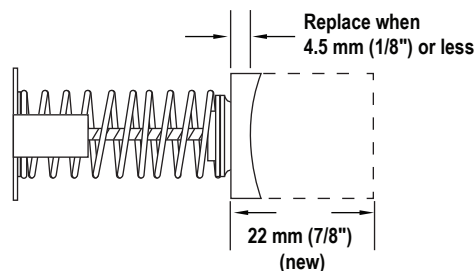

Figure 10. Brush Inspection
3. The brush assemblies must be replaced if they are 4.5 mm (1/8 in.) long or less. See Figure 10.